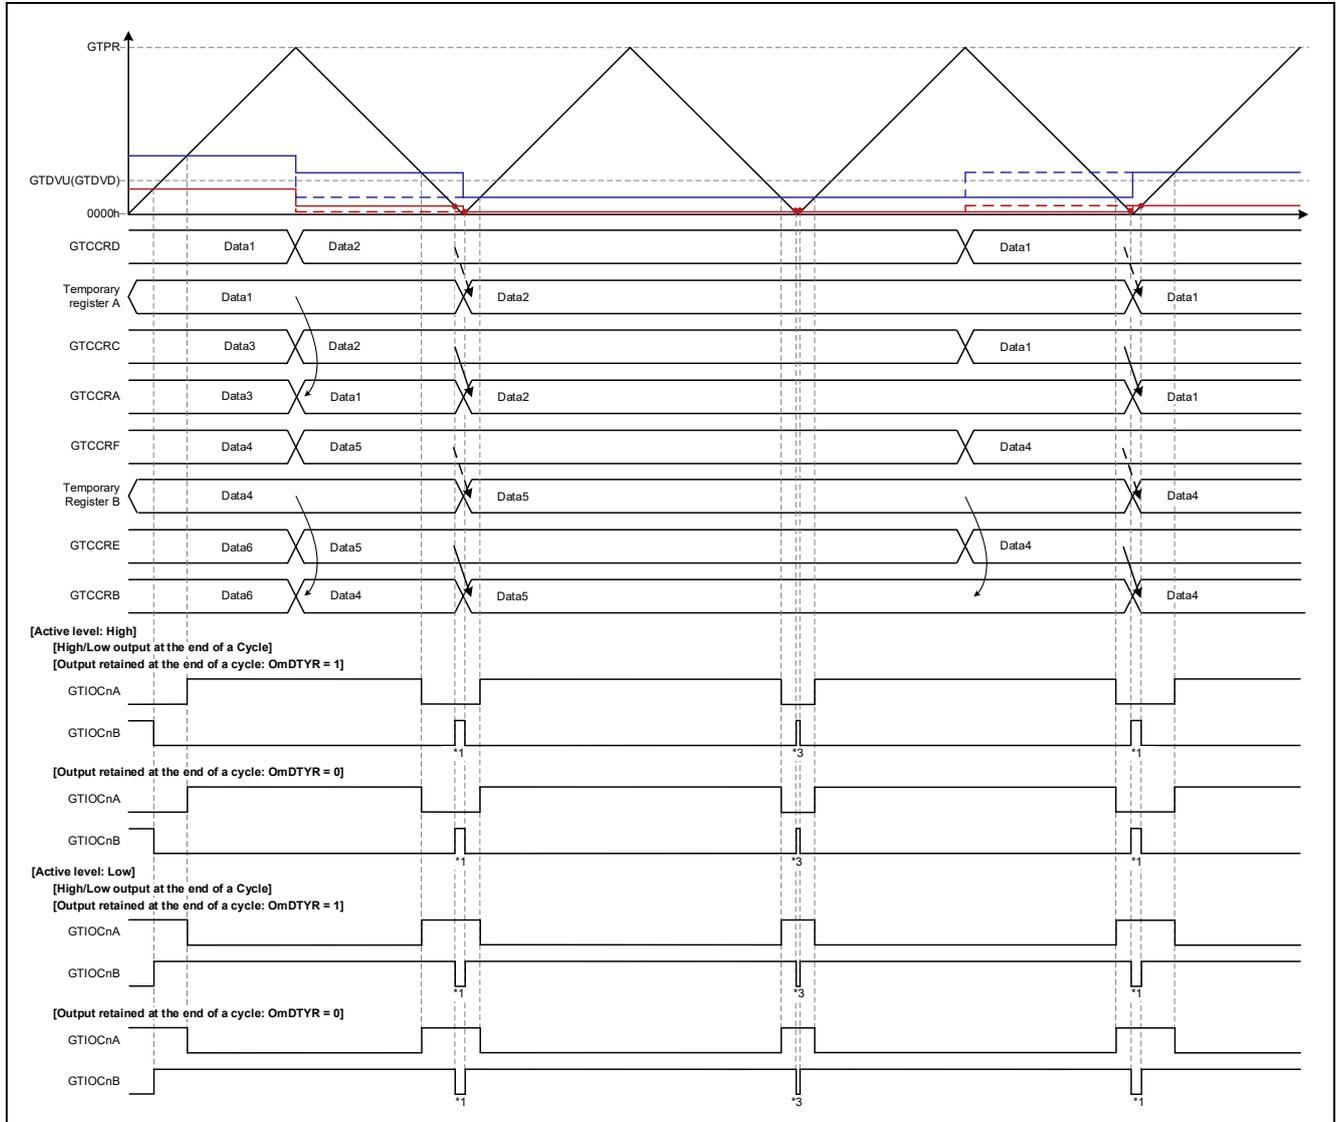

Figure 1.71 Triangle-Wave PWM Mode 3 Operation Example
| 1.3.2.1 | Change from Near 100% to Near 100% Duty Cycle (D → A → D) | Figure 1.66 | Figure 1.69 | Figure 1.67 | Figure 1.70 | Figure 1.68 | Figure 1.71 | *1, *2 | *1, *3 |
Figure 1.66 to Figure 1.71 illustrate the GPTW operating modes and cautions listed in Table 1.10.
- [Operation example 6] Figure 1.71, Triangle-Wave PWM Mode 3, Output Start: Trough, Automatic Dead Time Setting Disabled, cautions 1 and 3
Figure 1.71 shows an operation example with automatic dead time setting function disabled in triangle-wave PWM mode 3. Except for the difference in the buffer operation in the various modes, the operation is the same as that shown in Figure 1.69.